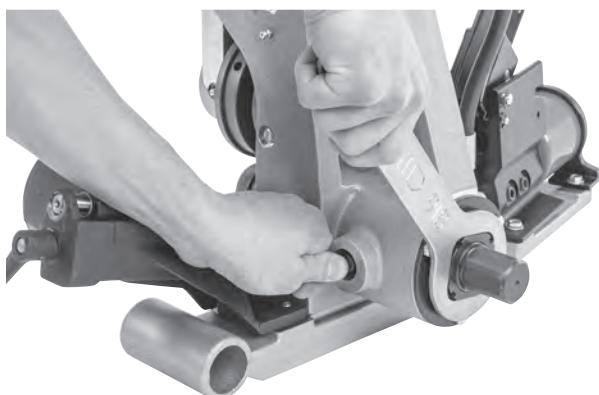

Figure 28 – Engaging Spindle Lock and Removing Drive Shaft Retaining Nut
3. With the spindle lock engaged, use the box wrench to remove the drive shaft bearing retaining nut (*Figure 28*).